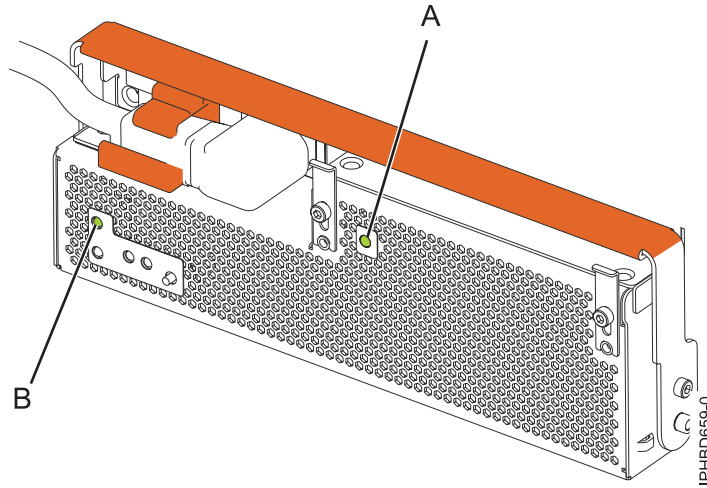

Figure 25. Expansion unit ac power and OCA power LEDs
9. Note the state of the green ac power in **(A)** and Offline Converter Assembly (OCA) power **(B)** light-emitting diodes (LEDs) shown in Figure 25 on page 25, and do one of the following actions, as applicable: